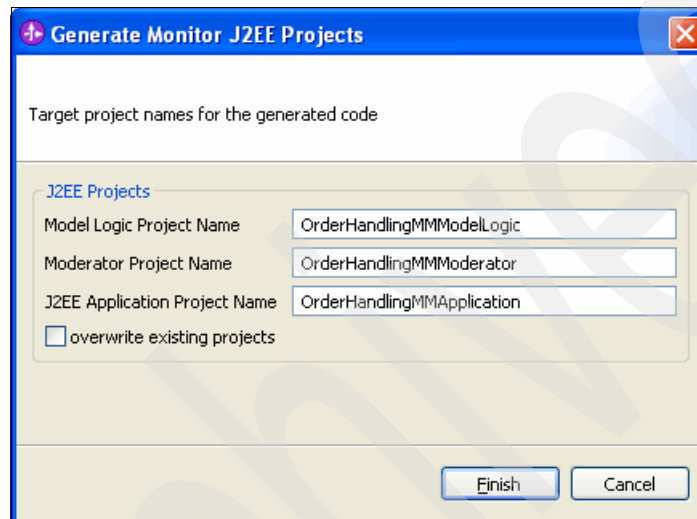

Figure 8-132 Generate Monitor J2EE Projects window
2. In the Generate Monitor J2EE Projects window (Figure 8-132), accept the default project names and click **Finish**.